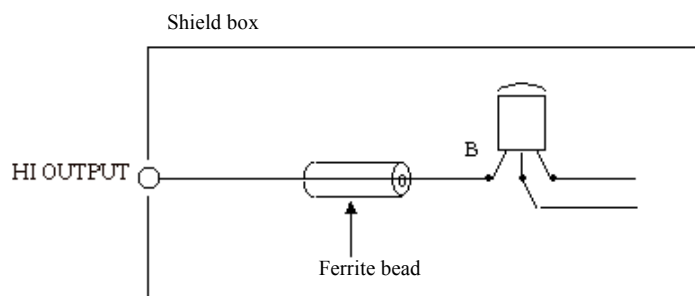

Figure 5-4 Preventing DUT Oscillation
- Attach a ferrite bead near the DUT as in Figure 5-4.